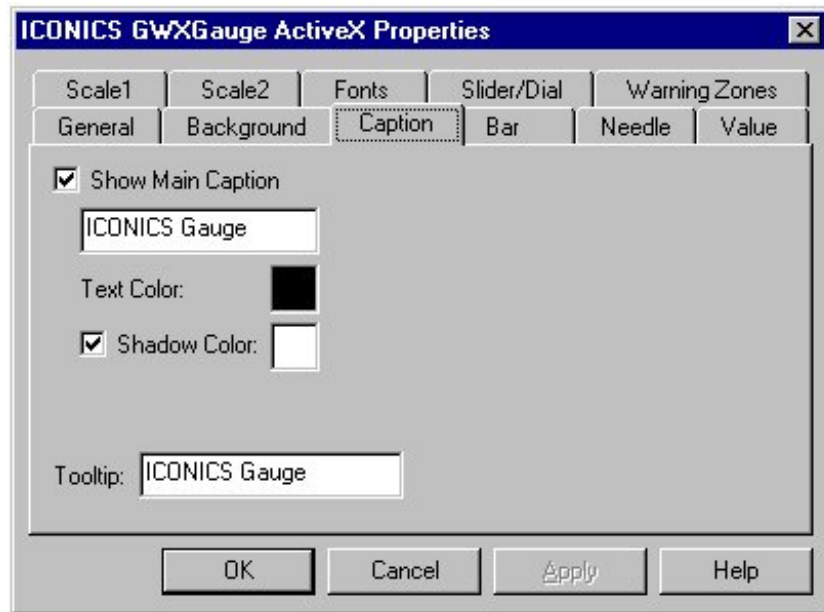

Figure 15-6: GWXGauge ActiveX Properties Dialog Box: Caption Tab
2. Select the Caption tab (Figure 15-6).